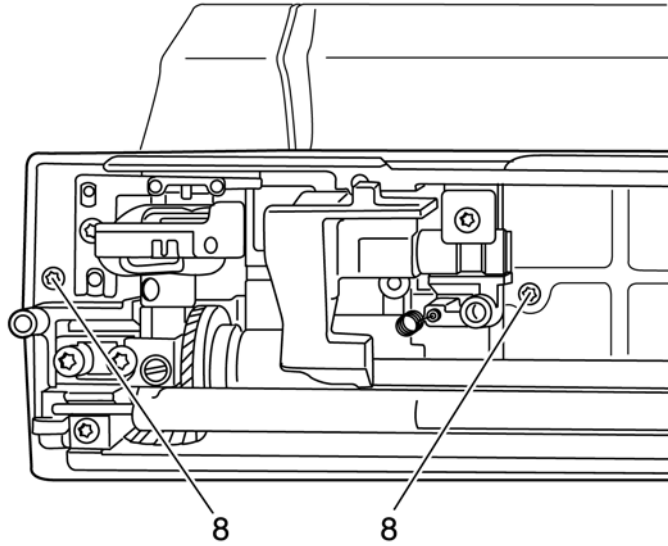

Fig. 7
- Unscrew and remove both fastening screws 8 (fig. 7).